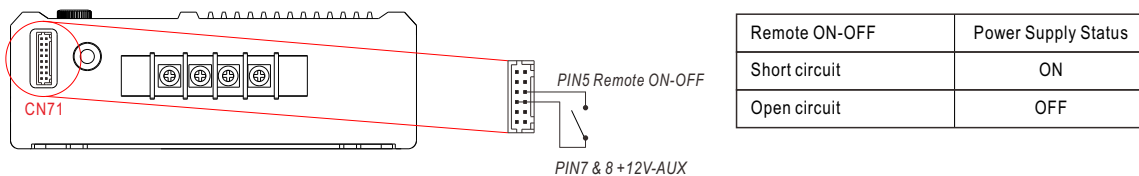

Figure 3-3 Connection of Remote Control
- ⊙ Built-in remote ON/OFF control circuit. Refer to Figure 3-3.